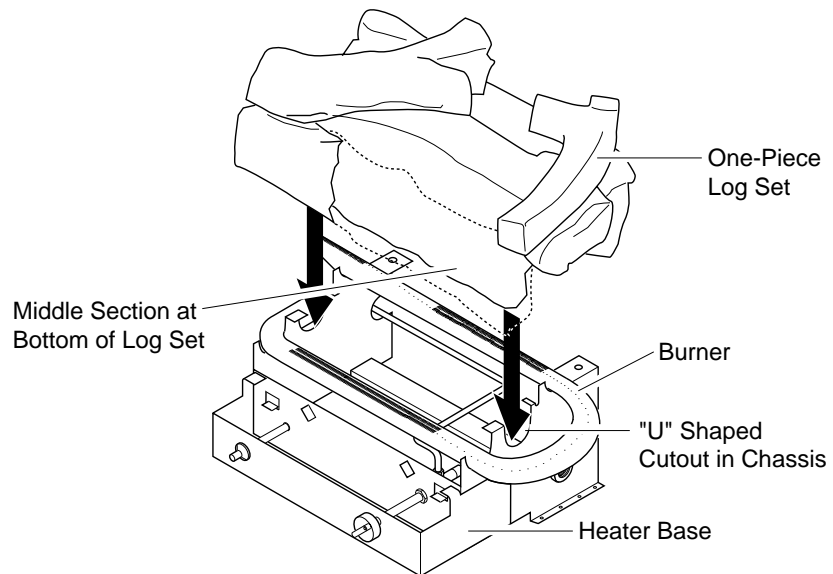
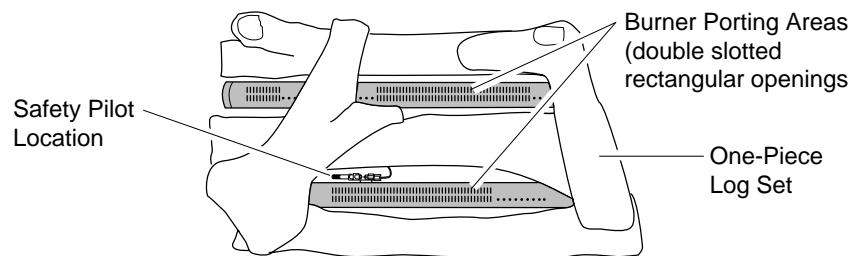

Figure 15 - Installing One-Piece Stove Log Set
Figure 16 - Top View of One-Piece Log Set on Gas Log Heater
8. Set one-piece log on heater base as shown in Figure 15. Make sure middle section at bottom of log is seated into "U" shaped cutout in center of heater base. Log will fit securely on base. **IMPORTANT:** Make sure log does not cover any burner ports and does not touch the stove cavity (see Figure 16).